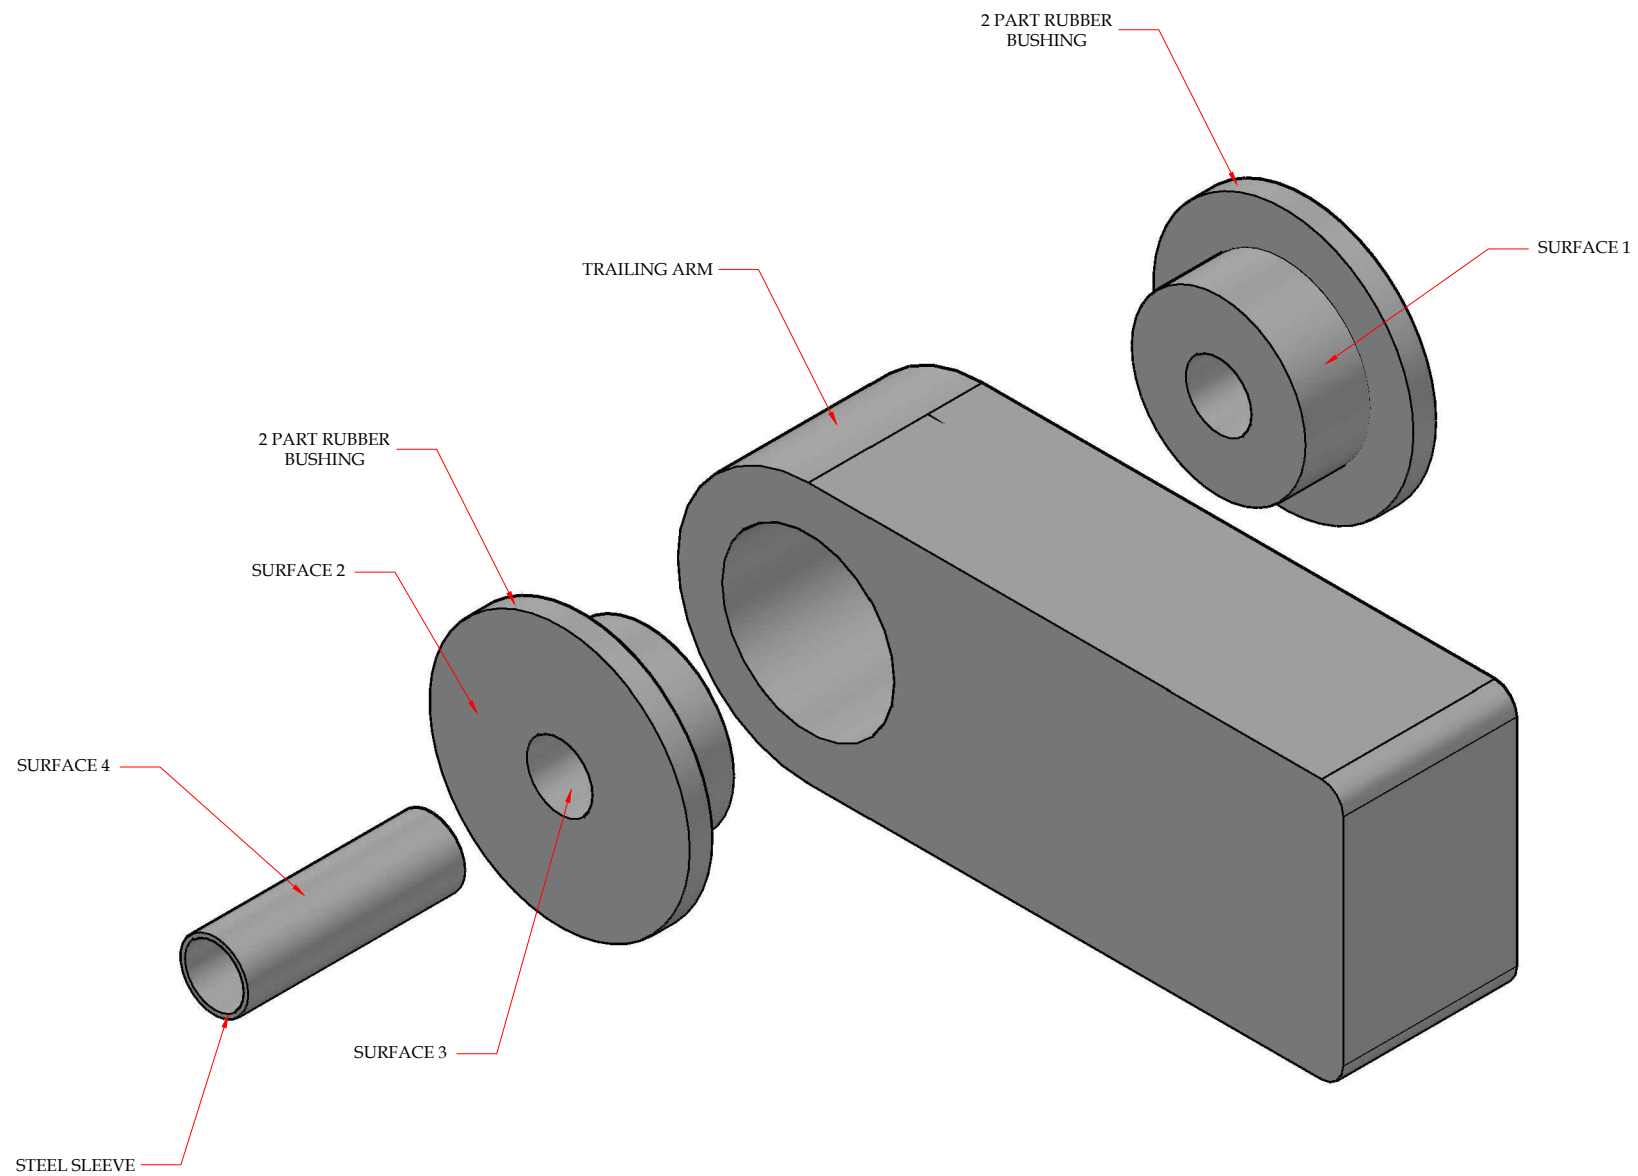

FIG.6
2. APPLY A SMALL AMOUNT OF GREASE (PROVIDED IN THE KIT) TO THE OUTER SURFACE #1 OF THE RUBBER BUSHINGS FOR SMOOTH INSTALLATION (FIG. 6)
4. APPLY GREASE TO THE INNER SURFACE #3 OF THE RUBBER BUSHINGS & TO THE OUTER SURFACE #4 OF THE STEEL SLEEVES (FIG. 6). INSTALL THE STEEL SLEEVES. APPLY A SMALL AMOUNT OF GREASE TO THE BUSHING'S OUTER FLANGE SURFACE #2 (FIG. 6).